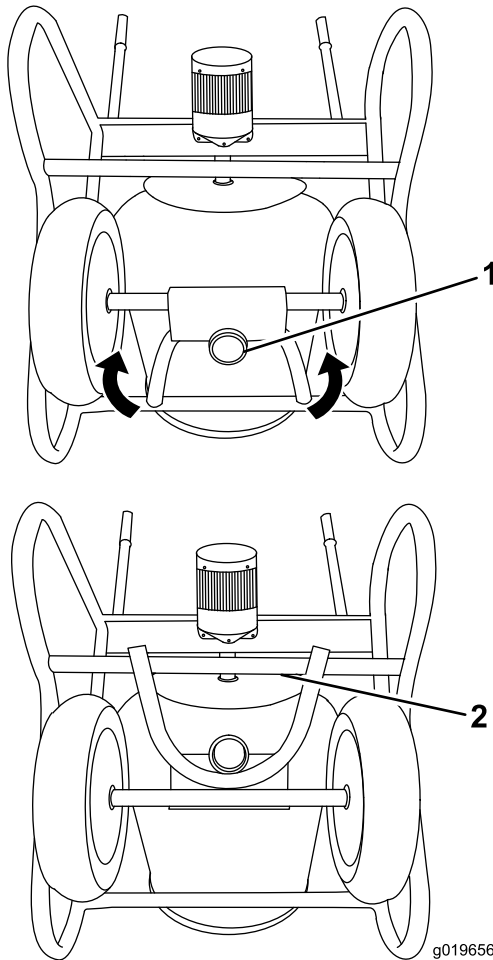

Figure 14
2. Rotate the pivot mount plate away from the drum and onto the front stop (Figure 14).